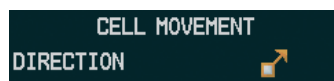

Figure 6-21 Cell Movement Legend
- 1) Press the **MAP** Softkey (for the PFD Inset Map, press the **INSET** Softkey). This step is not necessary on the Weather Data Link (XM) Page.
- 2) Press the **NEXRAD** Softkey (**CEL MOV** Softkey on the Weather Data Link (XM) Page). For Cell Movement to be displayed on maps other than the Weather Data Link (XM) Page, Cell Movement must be turned on in the Navigation Map Setup Menu (see "Setting Up XM Satellite Weather").
To display the Cell Movement legend on the Weather Data Link (XM) Page, (Figure 6-21), press the **LEGEND** Softkey when Cell Movement is selected for display.